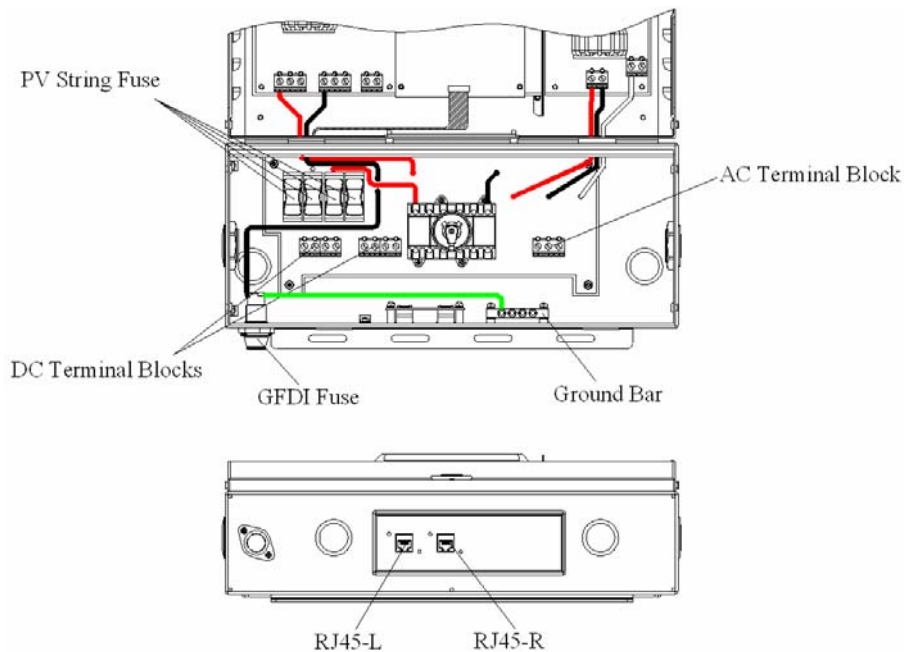

Fig 2.3.5 Wiring box bottom view
The following three sections describe the wiring for the AC, DC, and communication ports. The AC and DC wiring shall be done in the wiring box of the PVI 3000/4000/5000/5300. There is a pair of DC terminal blocks, two (2) RJ-45 connectors, and one (1) AC terminal block in the wiring box as shown in the Figure 2.3.5. The DC terminal blocks are used to connect up to 4 PV strings that will parallel connected in the wiring box (3 strings for the PVI 3000). The RJ-45 connectors are used for external communication to a remote computer or communication gateway. The AC terminal block is used to connect to the building/utility grid through a circuit breaker in the building distribution panel.